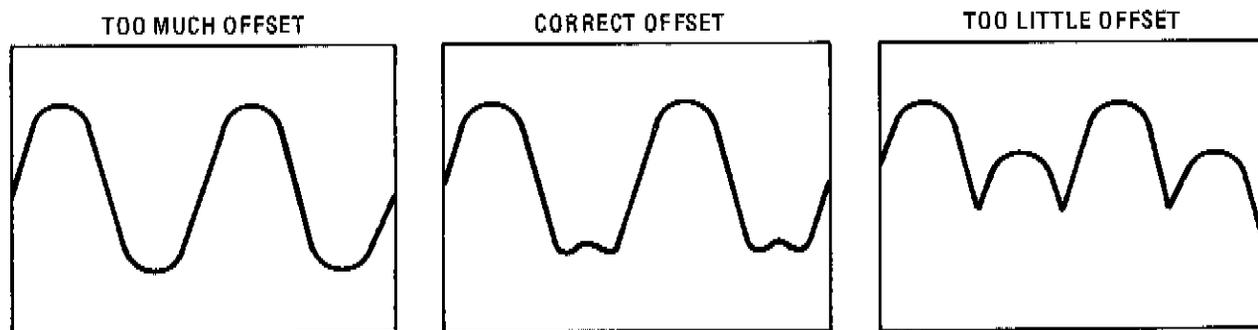

Figure 5-7. YTO Loop Offset Adjustment Waveforms
8. Set the YTO Loop Offset adjustment OFST A3A9A4R53 so the sinusoidal waveform just begins to fold over. Refer to Figure 5-7.